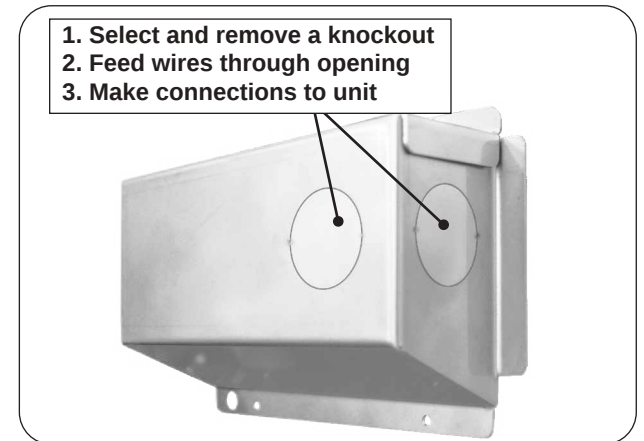

Fig. 31-2 Junction box knockouts
2. Remove the junction box located on the rear of the unit. Select and remove a knockout from the junction box that will best suit your electrical setup. See Fig. 31-2.